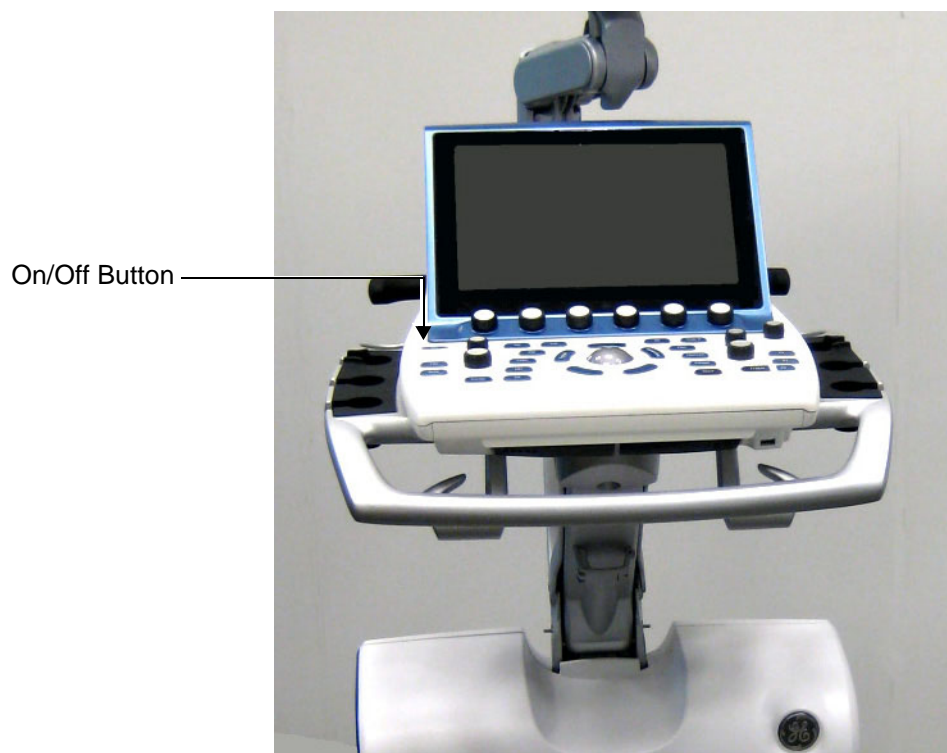

Figure 4-5 On/Off Button on Control Panel
- 2) Press once the **On/Off** button (Figure 4-5) on the control panel to boot up the unit.